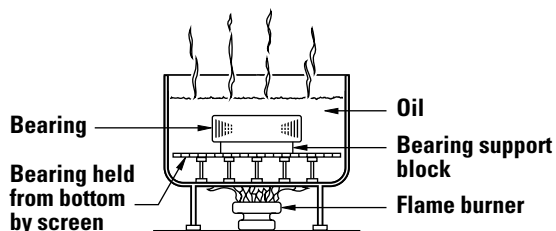

Fig. 93. Heat expansion method.
- The oil bath is shown in fig. 93. The bearing should not be in direct contact with the heat source.